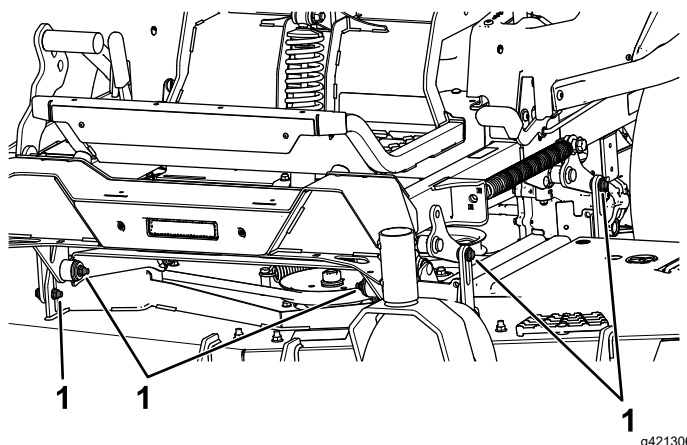

Figure 111
7. Remove and retain the bolts and nuts on both sides of the machine (Figure 111).